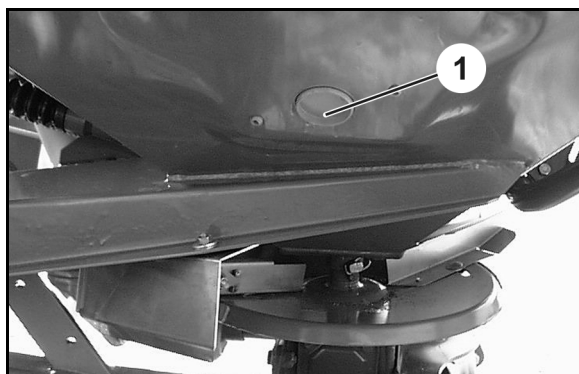

Fig. 41
1. Remove the plastic plug (Fig. 41/1).